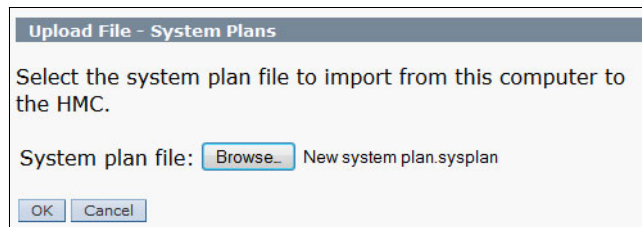

Figure 2-15 Confirm the deployment startup
2. After the wizard starts, its Welcome page (Figure 2-15) requests that you confirm the system plan to deploy and choose the managed server to be the target of the procedure. When your choices are made, click **Next** to continue.